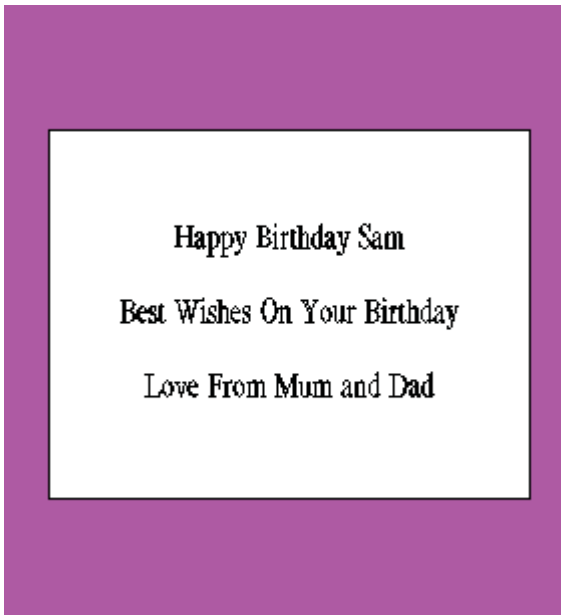

Figure 5
- 4 You will now have your engraving area with text in it, on the screen. Click on the Zoom Machine Bed, this will show you the Workspace in relation to the work area, see Figure 5.